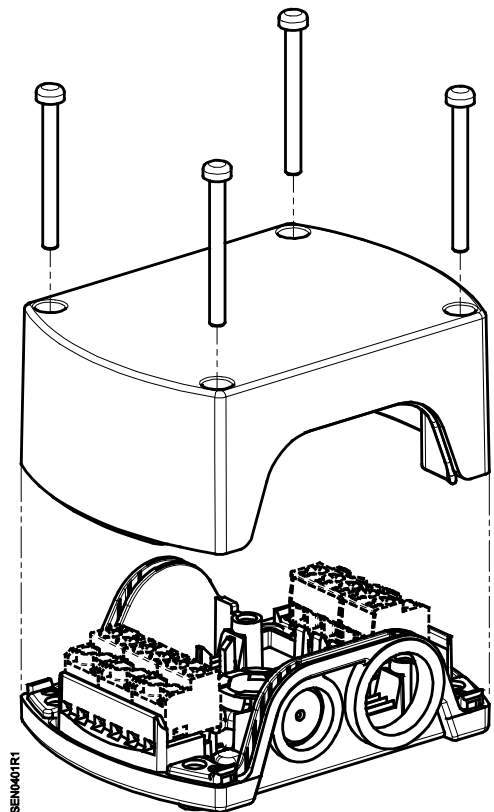

Figure 1.
1. Unscrew the four screws that hold the sensor cover in place. Remove the sensor cover from the housing base. This disconnects the power from the sensor tip. (See Figure 1.)